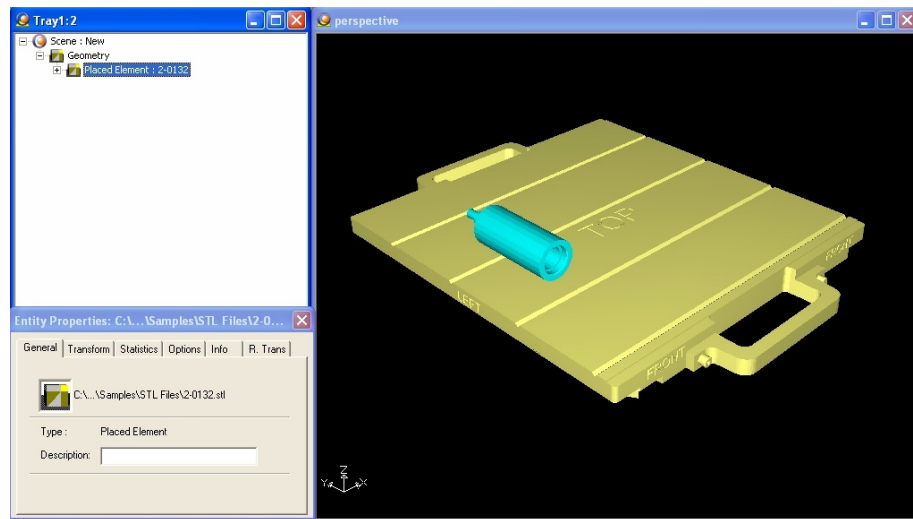

Figure 5-5: 2-view (default) screen layout
- ☐ 2 Views is the default screen layout, already displayed (see figure 5-5).